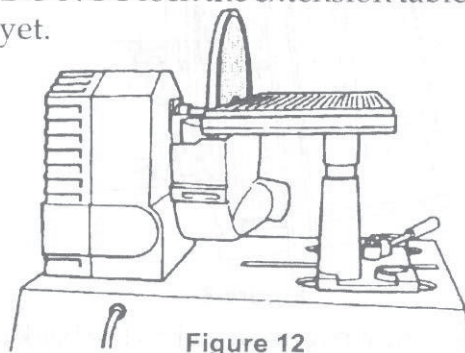

Figure 12
1. Mount the extension table in the carriage of the Power Station. Make sure the wide side of the extension table is toward the Power Station spindle, as in Figure 12. **DO NOT** lock the extension table in place yet.
5. Move the Power Station's carriage and the extension table toward the Conical Sanding Disc. Adjust the extension table's top surface to be about 3" below the top of the Conical Sanding Disc, and the table's edge $1/8$ " to $1/4$ " from the abrasive surface. Lock the carriage and the extension table. See Figure 12.